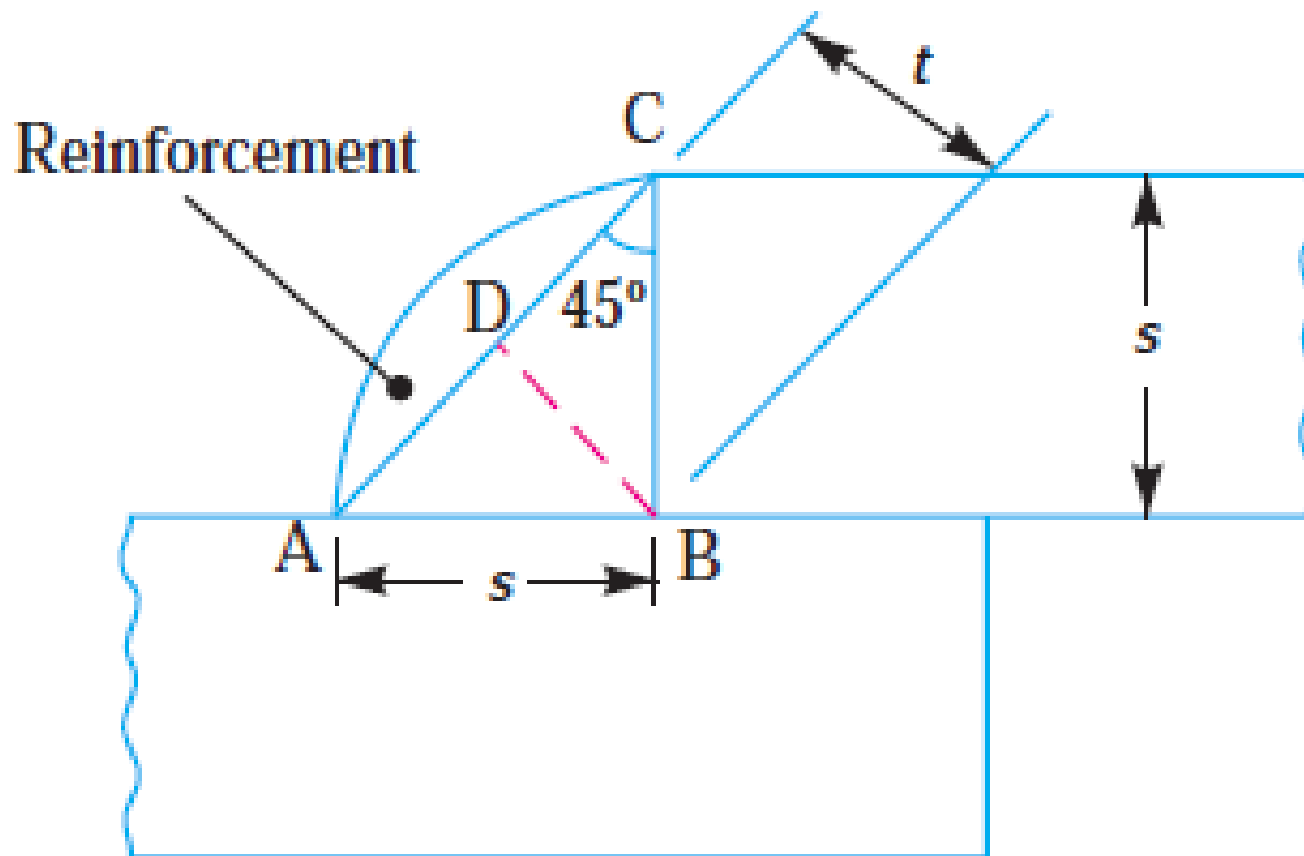

Fig. 10.7. Enlarged view of a fillet weld.
- The enlarged view of the fillet is shown in Fig. 10.7.